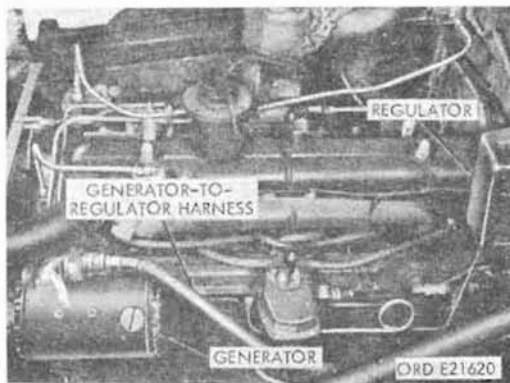

Figure 160. Removal of generator-to-regulator harness
a. Removal. Disconnect the generator-to-regulator harness at both ends (fig. 160) and remove from vehicle.
c. Installation. Connect one end of the generator-to-regulator harness to the generator and the other end to the regulator (fig. 160).